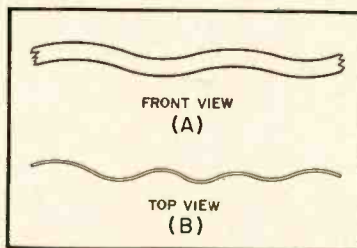

Fig. 2. Tape motion nomenclature: (A) Lateral weave; (B) transverse weave.
**Transverse Weave:** Movement of the tape in the direction of its transverse axis. This type of tape travel is usually caused by improper pressure pads, wrinkled tape, or obstructions in the normal tape path and results in amplitude variations particularly pronounced in the high frequencies. (See Fig. 2)